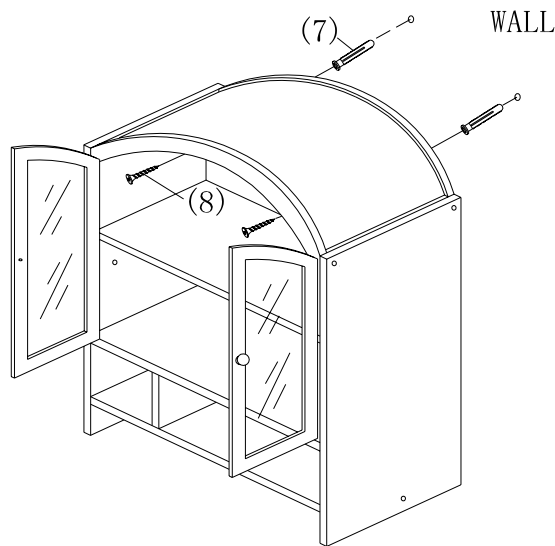

FIGURE 4
7. DRILL TWO $1/4''$ DIAMETER HOLES IN WALL. THE DISTANCE BETWEEN TWO HOLES SHOULD MATCH THE PREDRILLED HOLES ON BACK PANEL (I). FIT PLASTIC ANCHORS (7) INTO THE HOLES ON WALL. USE SCREWDRIVER TO SCREW LARGE FLAT HEAD WOOD SCREWS ($\text{\O}4 \times 38\text{mm}$) (8) THROUGH PREDRILLED HOLES ON BACK PANEL (I) INTO PLASTIC ANCHORS (7). (AS SHOWN IN FIGURE 4)